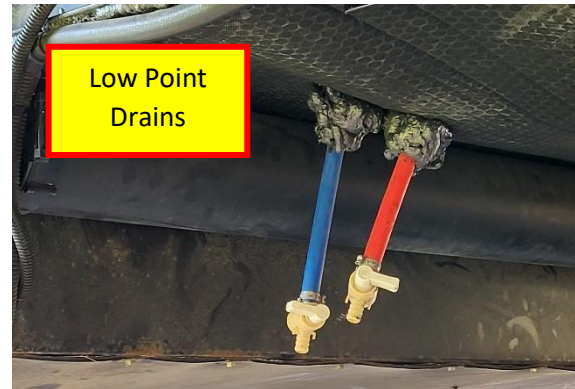

Figure 152. Water system low point drains.
- **A fresh water holding tank** which is filled at the docking station (covered above). The tank is emptied/drained at a low point drain on the exterior beneath the fresh water holding tank, see Figure 152. There is a large, white, manual pull dump valve to allow for rapid draining if putting